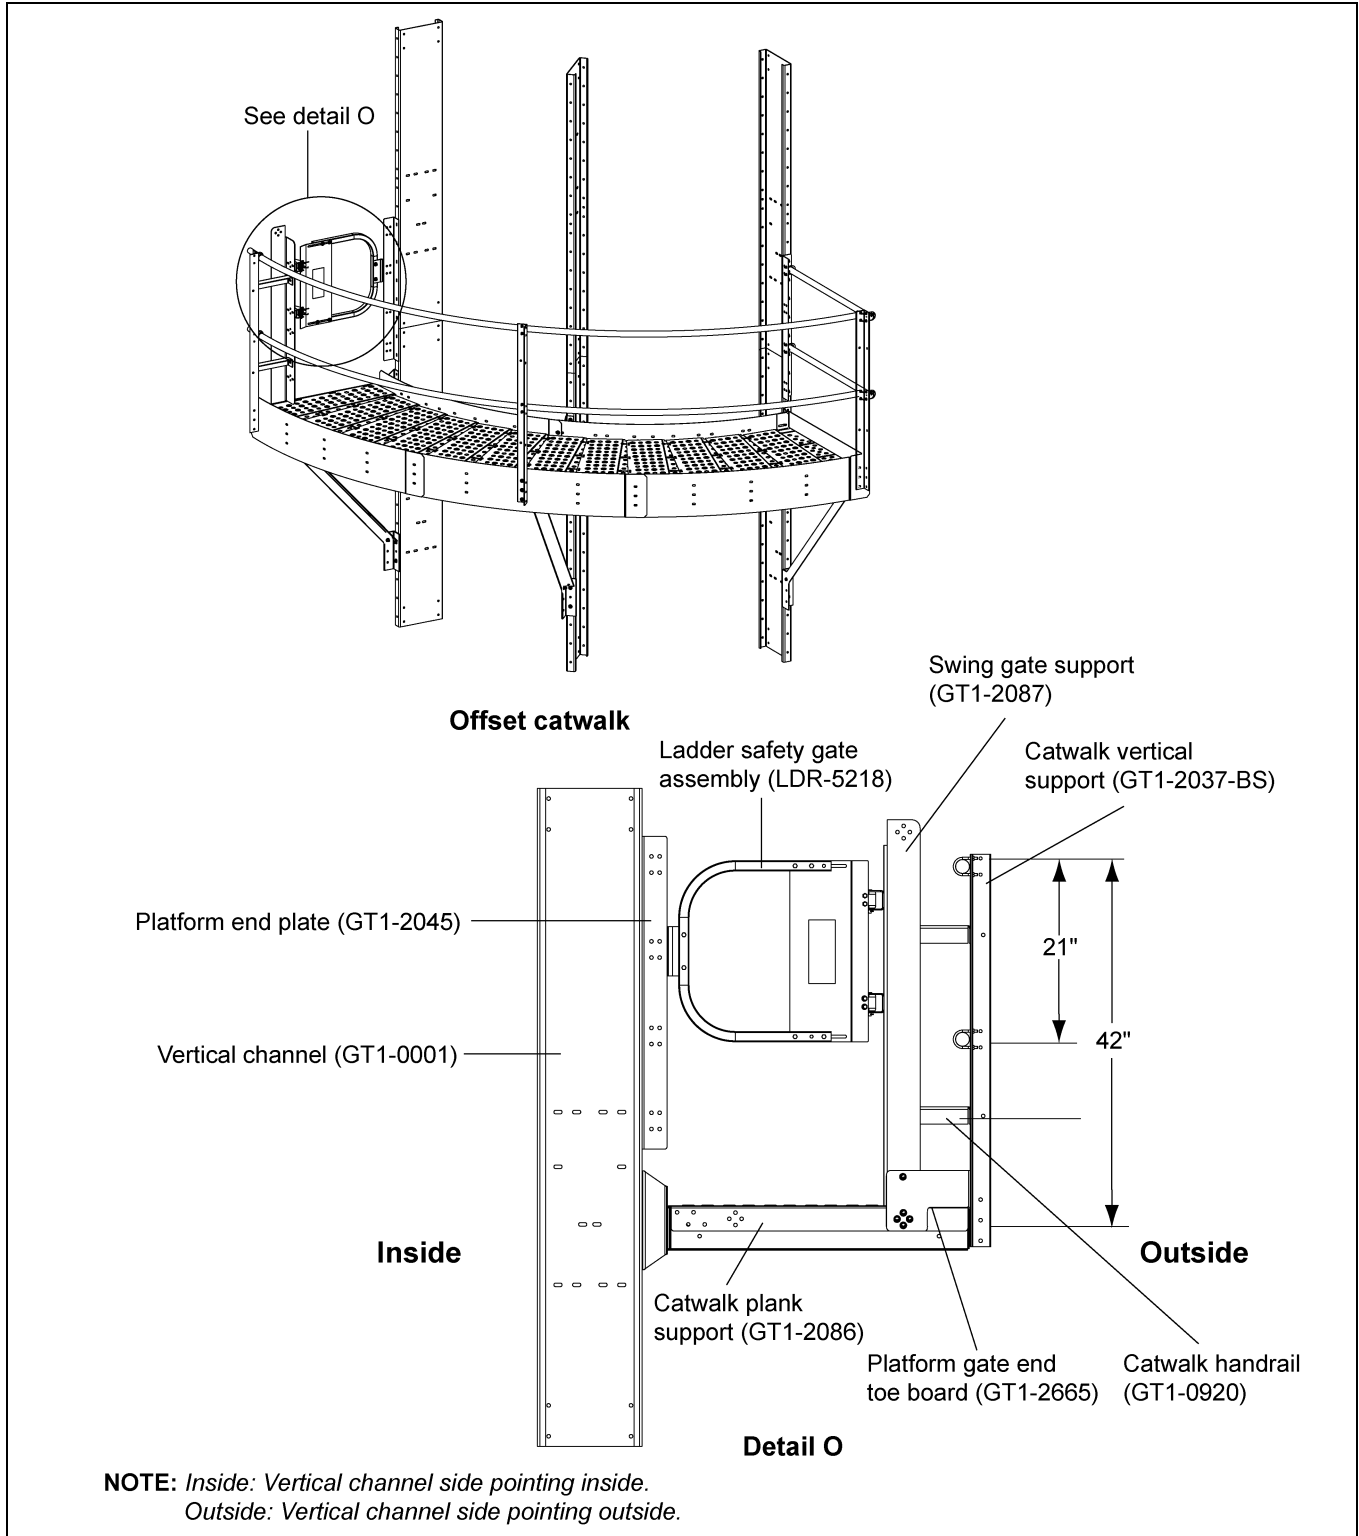
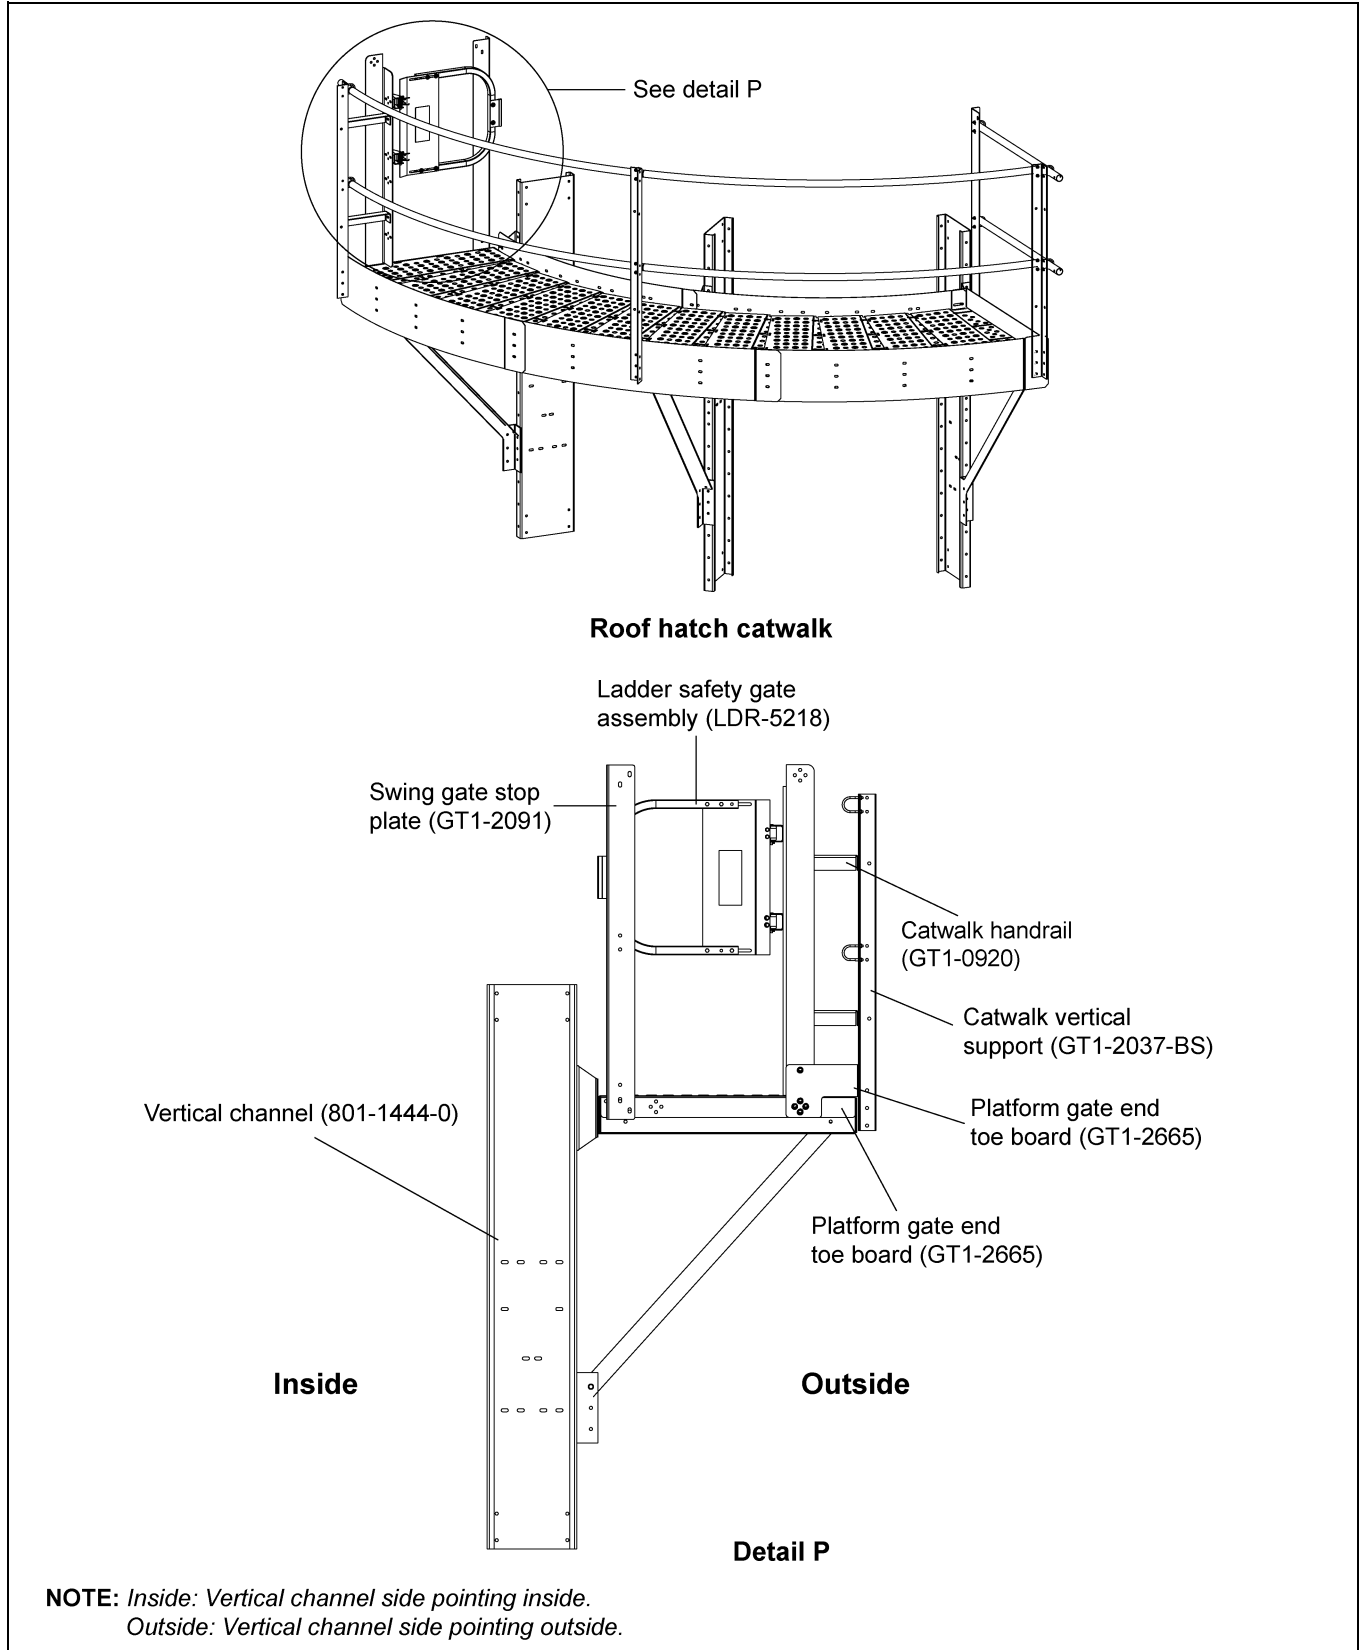

Figure 6Y Offset Ladder Safety Gate Assembly to Swing Gate Support (GT1-2087)
Figure 6Z Roof Hatch Ladder Safety Gate Assembly to Swing Gate Stop Plate (GT1-2091)
1. Install the ladder safety gate assembly (LDR-5218) to the swing gate support (GT1-2087) using 3/8"-16 x 1" JS grade 8 or grade 8.2 bolts (S-7485) and 3/8"-16 ZN grade 5 nuts (S-968). The distance between the plank and handrail is 42". (See Figure 6Y below and Figure 6Z on Page 62.)